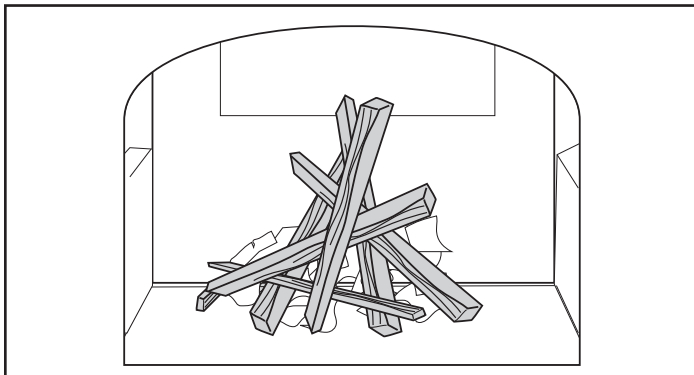

Figure 2.4 - Start the fire with newspaper and dry kindling.
2. Place several sheets of crumpled newspaper in the stove. Place six or eight pieces of dry kindling split to a finger-width size on the paper. On the kindling, lay two or three larger sticks of split dry wood approximately 1-2" (25-51 mm) in diameter. (Figure 2.4)